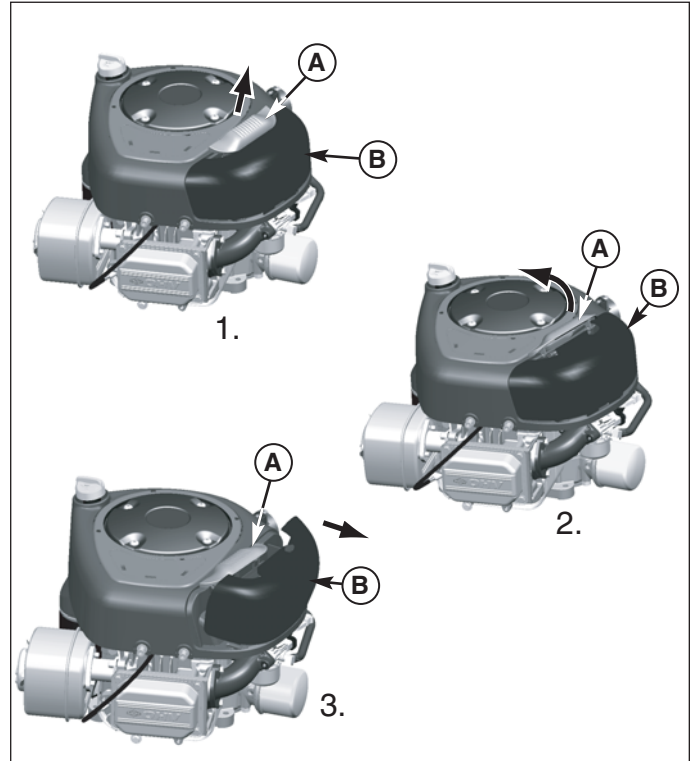
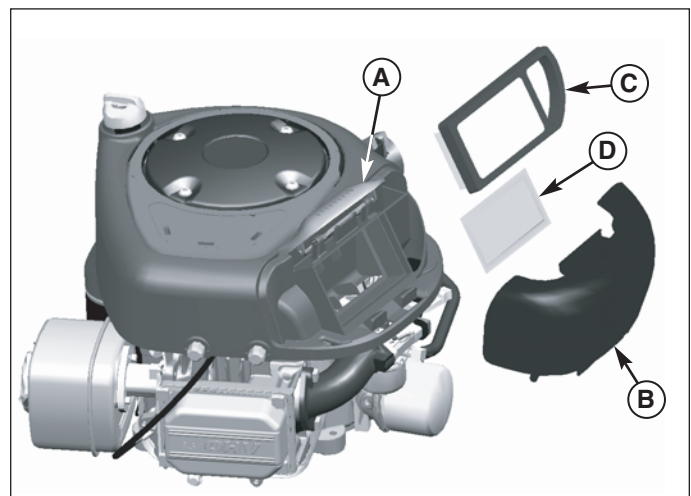

Figure 29. Air Filter Assembly - Briggs & Stratton Single Cylinder Models
Figure 30. Air Filter Service - Briggs & Stratton Single Cylinder Models
1. Lift up on the air filter latch (A, Figure 29).
2. Rotate the air filter latch (A) to the inside.
3. Pull air filter cover (B) out and off.
4. Lift air cleaner (C, Figure 30) and pre cleaner (D) if equipped, from blower housing
5. Install the pre-cleaner (D) with the mesh side up. Install the filter (C) as shown.
6. Install the cover (B) making sure the tabs are inserted into their slots. Secure with the latch (A).